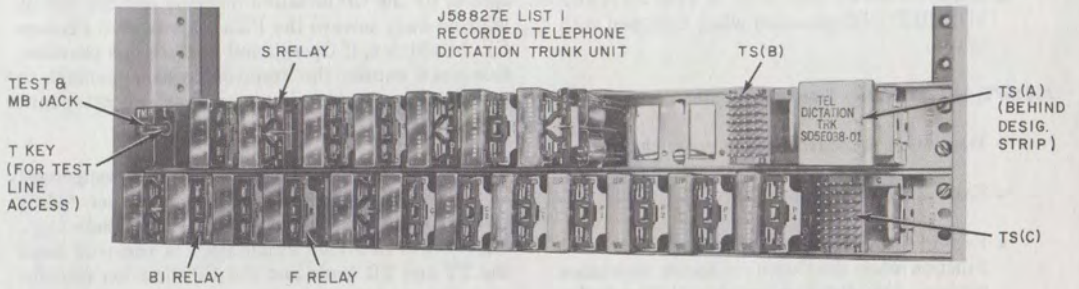

Fig. 3—Voice Connecting Arrangement DCT-Basic Unit
- J58827E, List 1 Recorded Telephone Dictation Trunk Unit (Fig. 3)—basic dictation trunk
3.01 The recorded telephone dictation trunk units can be mounted on a 23-inch relay rack in the associated switching system cabinets when space is available or on a miscellaneous relay rack. Mounting screws are provided with each unit. Typical mounting arrangements are shown in Fig. 3 and 4.